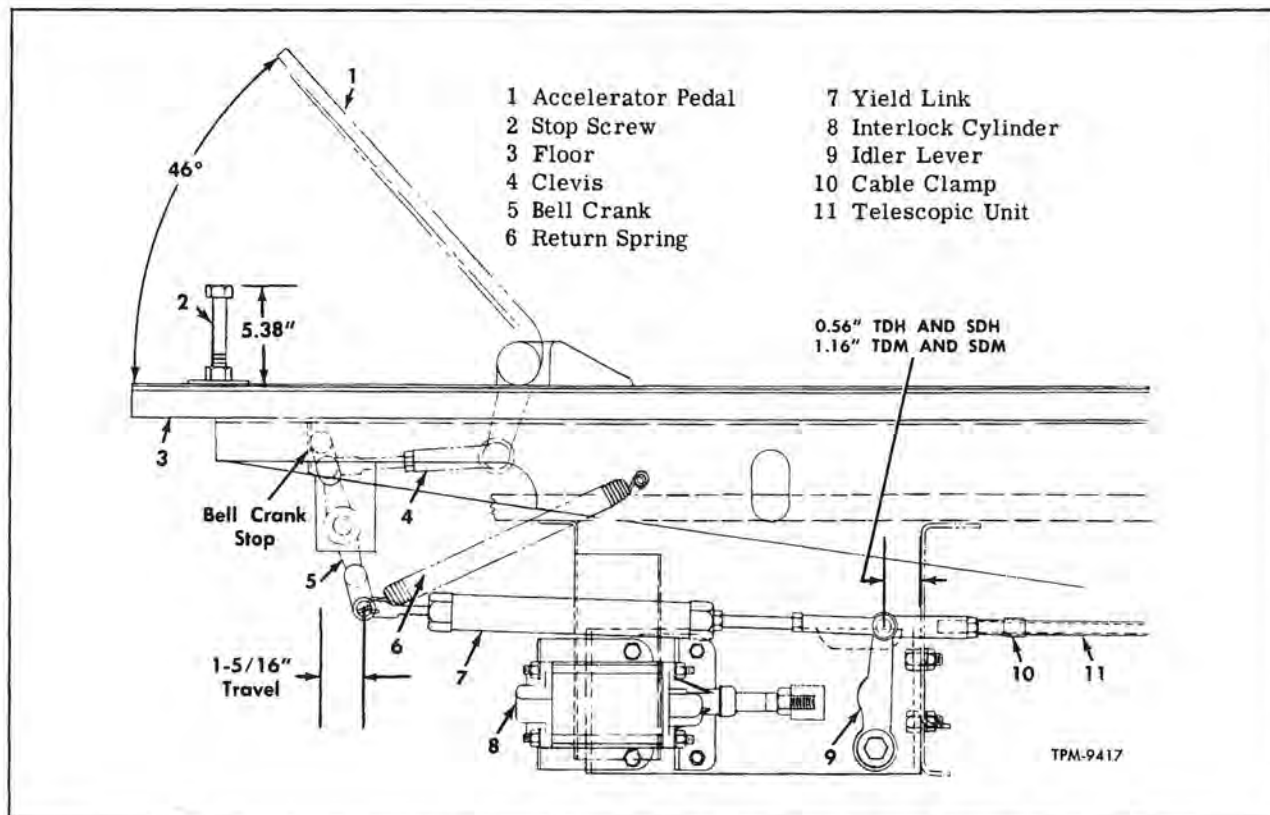
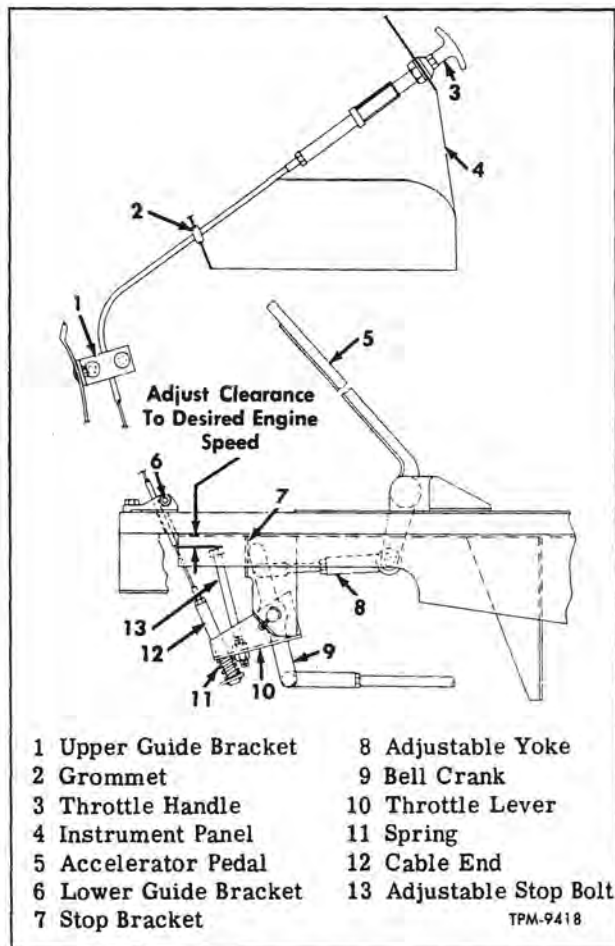
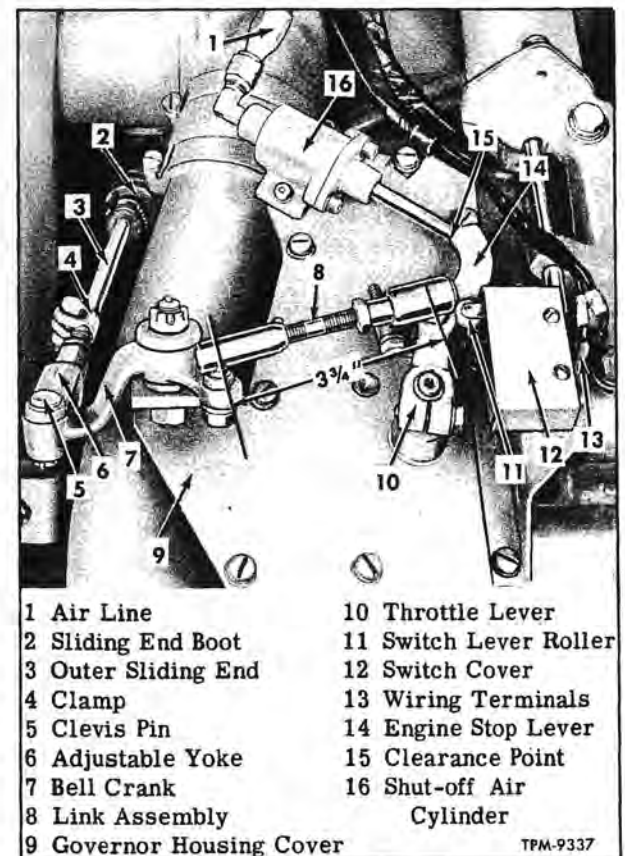
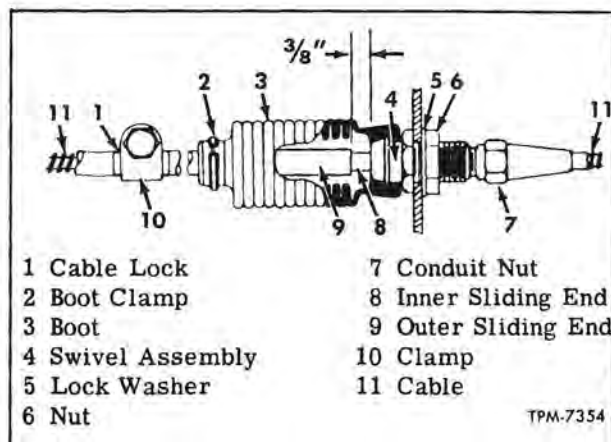

Figure 2—Accelerator Pedal and Linkage At Front of Coach
Figure 3—Hand Throttle Installation (Spec. Equip.)
Figure 4—Accelerator Linkage At Engine Governor
Figure 5—Installation At Sliding Ends
Accelerator pedal and linkage at front of coach is shown in figure 2. Pedal movement is transmitted to rear of coach through flexible cable encased in metal tubing. Linkage in engine compartment is shown in figure 4.
Adjustable stop screw at floor limits accelerator pedal travel. Boots are clamped in place at control cable telescopic ends to exclude dust and moisture. Linkage at front of coach (fig. 2) is accessible from below vehicle. Operation and maintenance of accelerator interlock air cylinder (8, fig. 2) is covered in BODY (SEC. 3) under "DOORS AND CONTROLS" of this manual.
Key numbers in text refer to figure 2, except as otherwise indicated.
1. Unhook spring (6) at front end of coach below floor.
2. Loosen cable clamp (10) and remove lock; then if necessary to remove cable, loosen clamp 4, fig. 4) and remove lock in engine compartment then pull cable out of conduit.
3. At front end, remove clevis pins and attaching parts to remove accelerator interlock (when used) yield link (7), or cable outer slider end on coaches without interlock, bell crank (5) etc.
4. Removing clevis pin (5) and flat washers (fig. 4) at bell crank on engine permits removal of clevis and adjustable yoke (6) (fig. 4) with boot as an assembly.
Key numbers in text refer to figure 2.
1. Assemble front linkage components as shown in figure 2. On coaches with hand throttle (fig. 3) the hand throttle lever must be assembled on bellcrank pin as shown in figure 5. With return spring (6) installed so upper end of bellcrank (5) is held against stop on bracket, adjust clevis (4) as necessary to position pedal (1) at 46-degree angle as shown.
2. Adjust stop screw (2) to 5.38" height as shown and check operation of pedal.
**NOTE:** If pedal position and stop screw height are correct, lower end of bellcrank (5) will travel 1-5/16 inches as pedal is depressed from released position to stop screw.
3. On coaches equipped with accelerator interlock, assemble yield link assembly (7), idler lever (9), and telescopic unit (11), with clamp (10) and boot. Adjust clevis on yield link (7) so clevis
pin will be to dimension shown in figure 2, from bulkhead.
4. On coaches not using accelerator interlock, attach telescopic unit assembly to bellcrank (5).
5. Before clamping boot in place, lubricate inner and outer tubes of telescopic unit with special lubricant and adjust outer tube in clevis so there is 3/8 inch from end of outer tube to swivel (fig. 4).
1. Dip end of cable in special lubricant as specified in LUBRICATION (SEC. 13) of this manual, then feed cable into conduit from rear end applying lubricant to cable as cable is installed. Continue to feed cable into conduit until cable emerges at front end of front telescopic unit (11, fig. 2). Test cable for free movement.
2. Install lock to secure cable to front telescopic unit (11, fig. 2). Slide clamp (10, fig. 2) over lock and tighten clamp bolt. Install rubber seal on front end of cable and push seal against sliding end.
Key numbers in text refer to figure 4.
1. If link assembly (8) is removed, adjust length so ball studs will fit into lever and bellcrank (7) and lever (10) with approximately 3-3/4 inch between hole center lines as shown.
2. Lubricate inner and outer tubes of telescopic unit sliding end (3) with special lubricant, slide boot (2) on outer tube. Block accelerator pedal down against stop screw, then place outer sliding end (3) over cable and inner tube. While holding sliding end (3) 3/8 inch from swivel (fig. 5) install cable lock, slide clamp (4) over lock and tighten clamp bolt.
3. Cut off excess cable which may protrude more than 1/2 inch beyond end of threads on sliding end (3). Install rubber seal on rear end of cable and push seal tight against sliding end.
4. Release accelerator pedal. Fit boot (2) on swivel and clamp rear end to sliding end (3).
5. Install lock nut and adjustable yoke on threads at end of sliding end (4).
6. Using clevis pin and two flat washers as shown, connect sliding end yoke to bellcrank (7). Secure clevis pin with cotter pin.
Key numbers in text refer to figure 4, unless otherwise indicated.
Clevis pins and pivot points at accelerator control linkage must be lubricated periodically as instructed in LUBRICATION (SEC. 13). Cable and sliding ends are lubricated at time cable is installed and periodic lubrication is not required; however, the boots (3, fig. 5) should be inspected at regular inspection intervals. If cable requires replacement, lubricant as specified in LUBRICATION (SEC. 13) of this manual, must be applied. Since correct adjustment of accelerator controls is necessary to prevent excessive strain on linkage, a periodic check should be made to assure proper adjustment as previously described under "Accelerator Linkage Replacement and Adjustment," in this section.